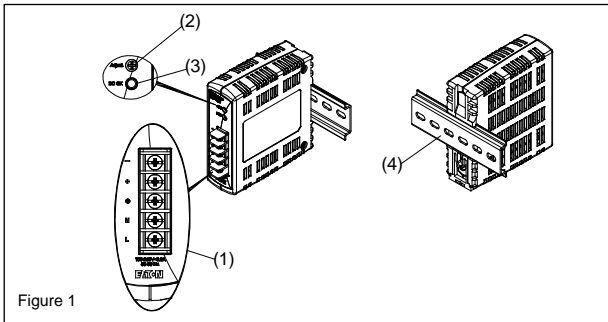
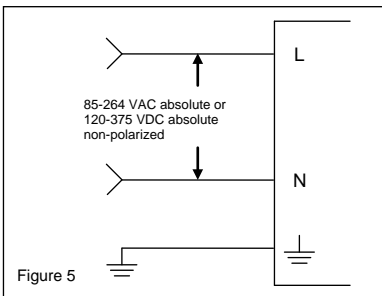

Figure 1
Figure 5
2. Device description (Fig. 1)
5.1. Input connection (Fig. 1, Fig. 5)
Use L, N and PE connections of input terminal connector (see Fig. 1 (1)) to establish the 100-240 VAC connection.
5.2. Output connection (Fig. 1 (2))
Use the "+" and "-" screw connections to establish the 12 VDC connection. The output provides 12 VDC. The output voltage can be adjusted from 11 to 14 VDC on the potentiometer. The green LED DC OK displays correct function of the output (Fig. 1 (3)). The device has a short circuit and overload protection and an overvoltage protection limited to 17.6 VDC.